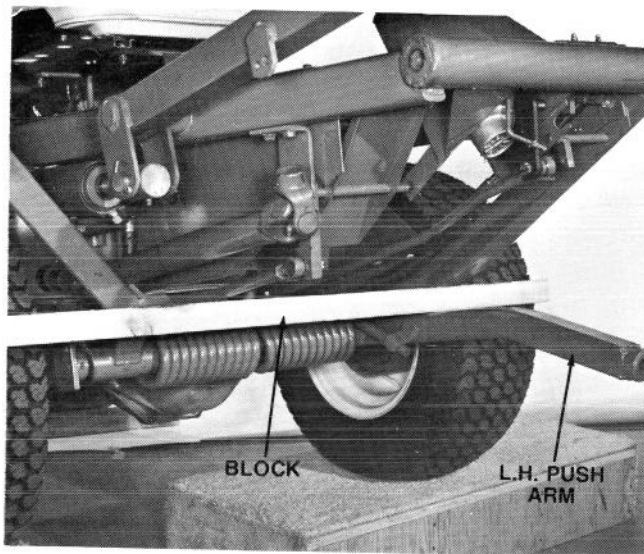

Figure 7
1. Remove cutting unit and place a 2 x 4 block between the left hand push arm and frame (Fig. 7).